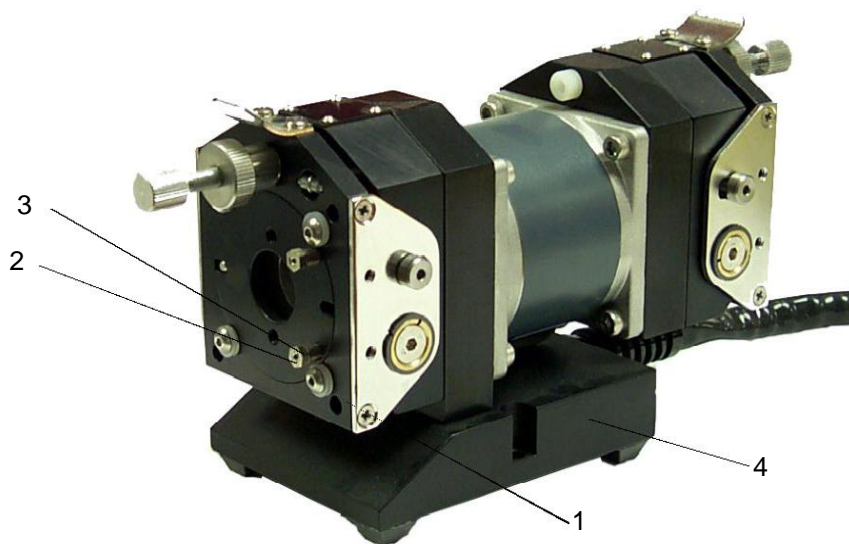

Figure 5.4 Microspense AP Motor/Base Module Pump Stabilization
5.2.5 Pump Stabilization (Figure 5.4)
The following steps describe the procedure for adjusting the Pump Module for accelerated discharge. In general, an accelerated discharge position is established when the pump module stabilizing ring is angled from the face plate. In this position, the setscrews (2) contact the face plate to create the angled position. These set screws can be adjusted to create a positive offset (0.04" (1.0mm) max.) between the pump module stabilizing ring and the face plate. (See Figure 5.4) The amount of fluidic acceleration is adjusted by changing this offset and can only be optimized through trial and error.